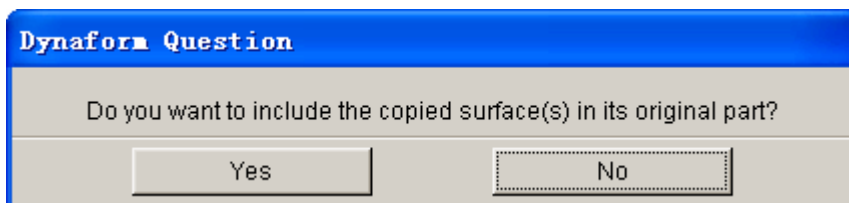

Figure 5.2.5 DYNAFORM Question dialog box
- Select YES or NO in the eta/DYNAFORM Question dialog box, as illustrated in Figure 5.2.5 to determine the part to store the surfaces.